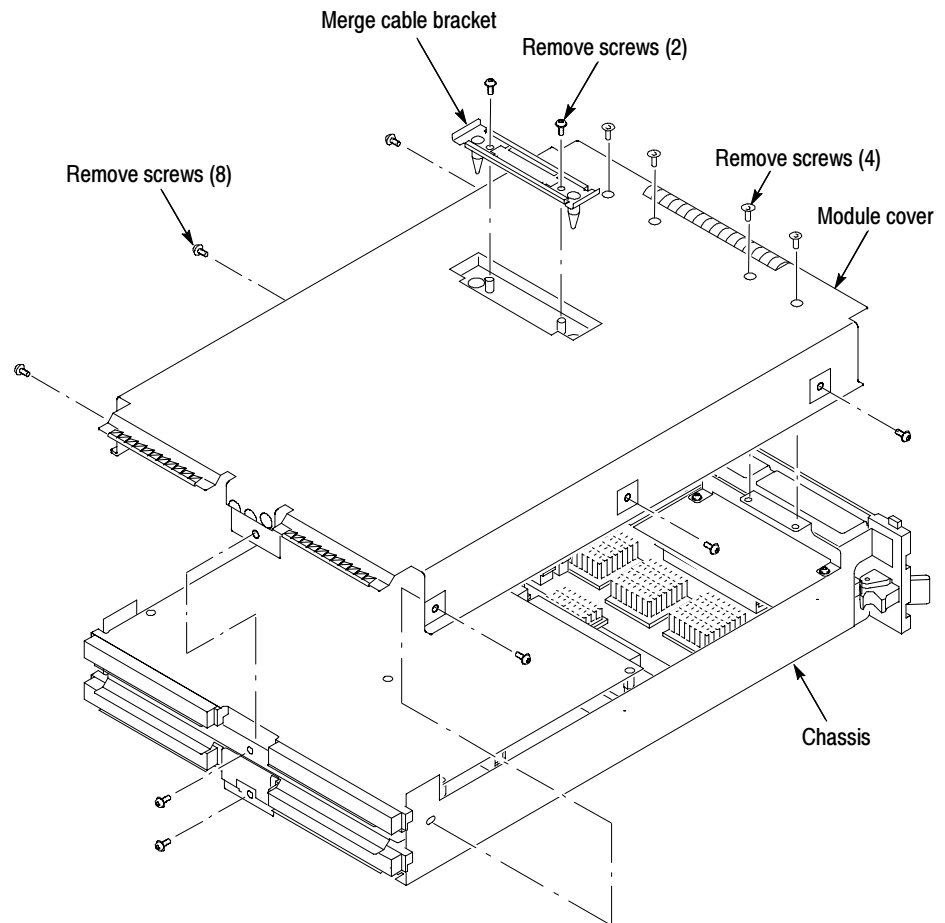

Figure 27: Removing the cover
4. Remove the screws from the module cover with a screwdriver with a T-10 Torx tip; refer to Figure 27 on page 37.